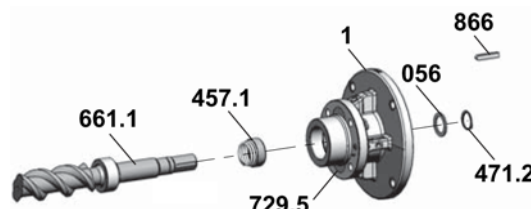

Fig 7
5. **Mechanical seal of hardmaterial:** Loosen the threaded pins **2**. Remove the rotary seal ring **457.1** and corresponding parts of the mechanical seal from the mainscrew, see Fig. 7.